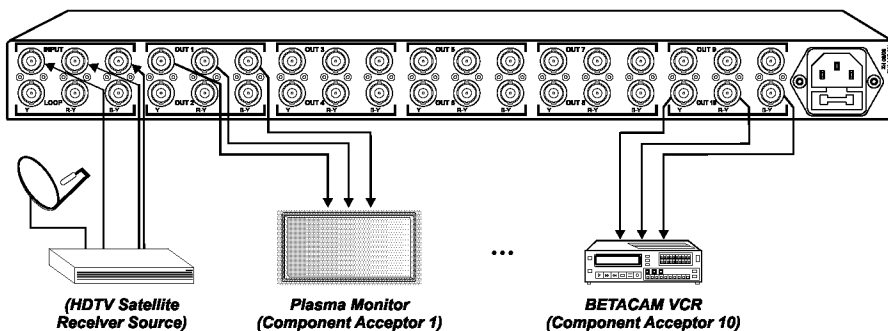

Figure 3: Connecting a VM-100CB Unit
| Figure 3: | Connecting a VM-100CB Unit                | 6 |
4. Connect the power cord3 (not illustrated in Figure 3).